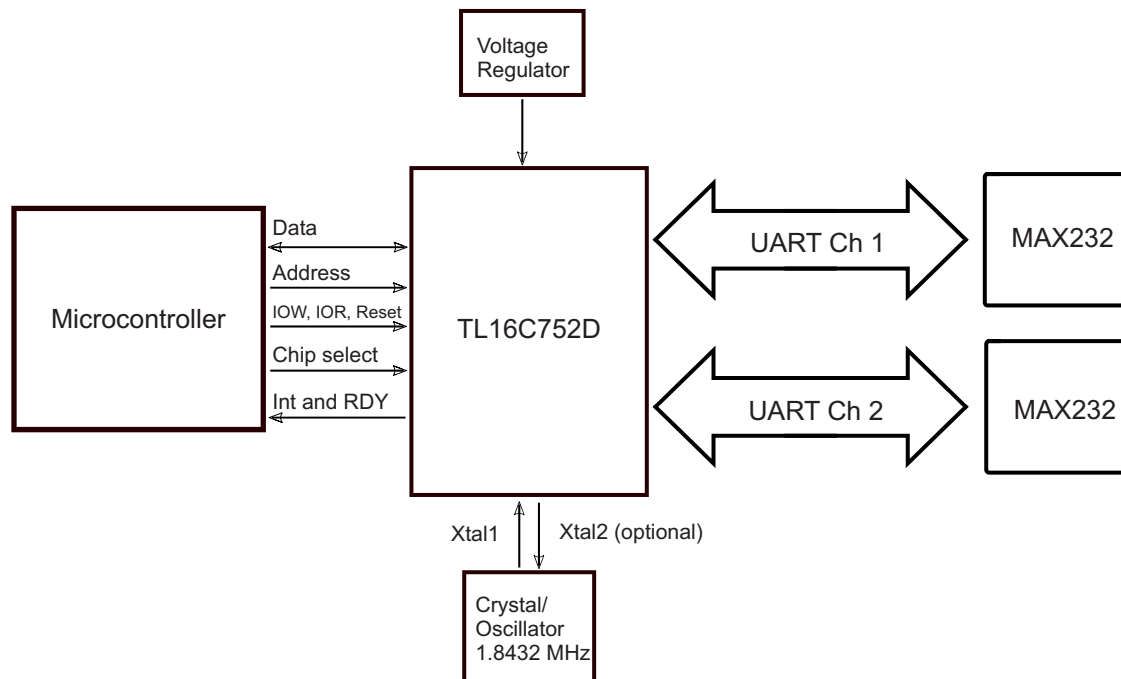

Figure 39. Typical Application Dual RS-232 Interface
1. Implement the schematic as is shown in Figure 39
The designer can use Figure 39 as a guideline to configure each channel of the UART.